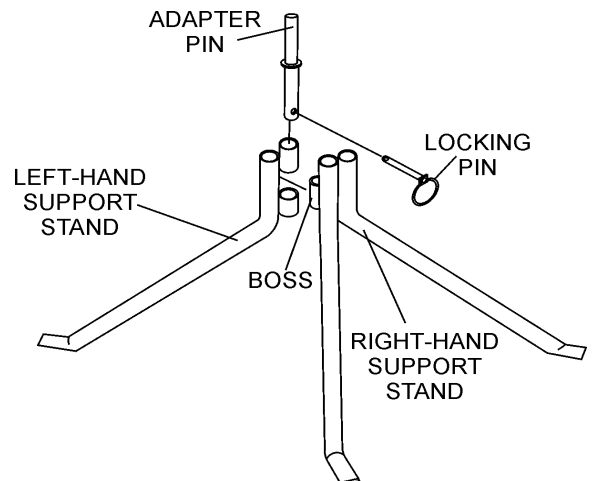

Figure 9. Support Stand
4. Place the two halves of the support stand together (Figure 9). The left support stand fits into the center boss on the right support stand.
5. Insert the adapter pin through bosses as shown in Figure 9. Once the adapter pin has been inserted and aligned, insert the locking pin. Place the round part of the locking pin over the bottom section of the adapter pin.